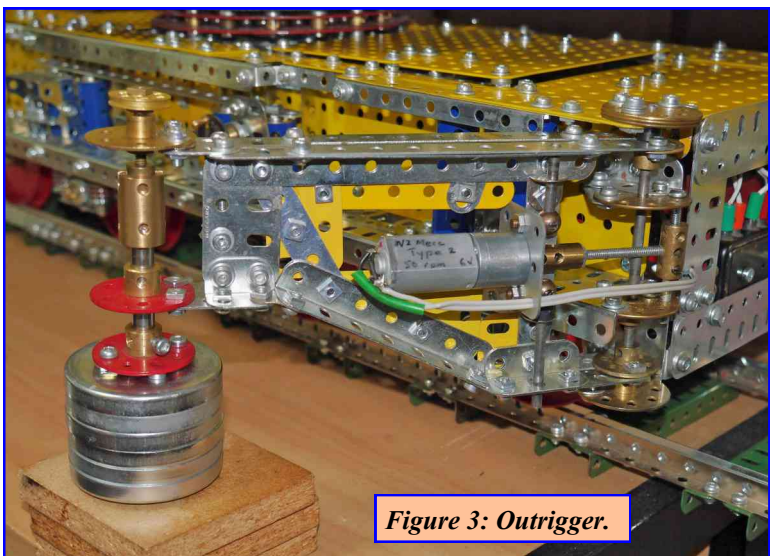

Figure 3: Outrigger.
An outrigger is shown in Figure 3. The bearing to the outrigger from each corner of the carriage is substantial using 4 bearings comprised of Wheel Disks with a 5" stainless steel Axle Rod through all bearings. Each outrigger is made from double Angle Girders top and bottom bolted to a 5-hole Flat Girder at the outer end. Triangular bracing in the form of a 5-hole Strip prevents the outrigger distorting under the load of the crane. The lifting jack is made up from a Hollow Large axle, a Large Axle Socket Coupling (SC) with a Threaded Boss fitted in its top socket. By turning a 1" pulley at the top a 2" Screwed Rod drives the SC down through its Large Axle Bush Wheel at the bottom. As the jacks are positioned higher than conventional outriggers (props) on railway cranes a set of cast aluminium bearing cylinders are used to sit on timber bolsters at or near rail level. These alloy cylinders can be stacked 3 or 4 high (fixed by spigots) and are packed into cradles under the outer corners of the relieving bogies when not in use. In the model I've used a pair of Wheel Flanges for each aluminium cylinder, held together with Long Bolts. A Large Axle Bush Wheel can be fitted to the top of these cylinders to accept the jack's piston. The jacks are manually operated on the model as there wasn't space to provide a motor and keep within the dimensional limits.
Fig. 3 also shows the 50 rpm geared motor used to rotate the outrigger about a vertical axis. A Threaded Coupling on the motor shaft has a 1½" Screwed Rod in its threaded end which turns in a Coupling held by 2 vertical rods supported in some of the outrigger Bush Wheel bearings. The motor has to rotate by a few degrees about a vertical axis between the open and closed positions and is pivoted using Handrail Supports with short rods held by brackets bolted to the outrigger frame. This jacking system is almost identical to that used on the prototype. Initially no hydraulic positioning jacks were provided but it was found that they could not be manually positioned when the crane was resting on canted (on curves) or sloping track.